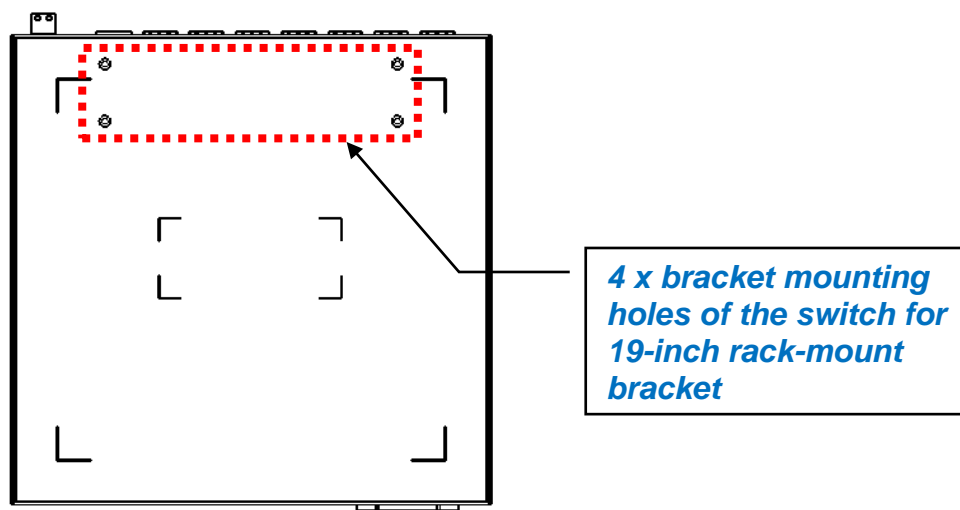

Figure 2-5. Bracket mounting holes located at the bottom of the switch
- 1.1. Four bracket mounting holes for 19-inch rack-mount bracket are located at the bottom of each switch. (See Figure 2-5). Align these holes of this switch with the mounting holes on the most left side of the bracket you purchase.